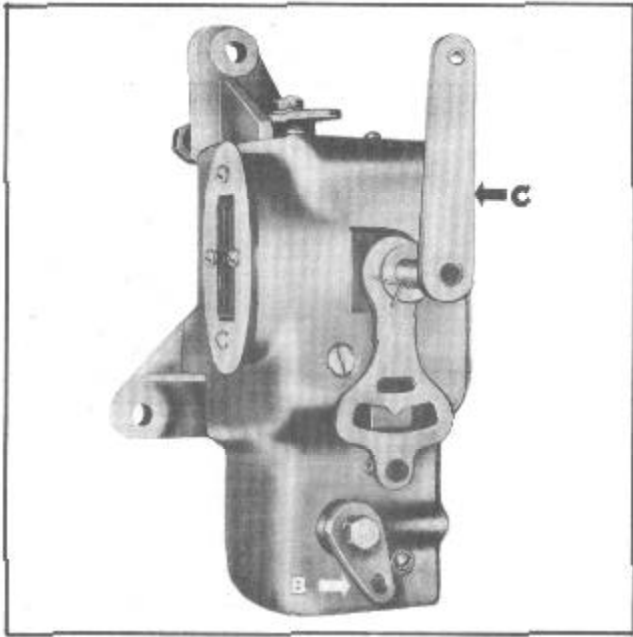
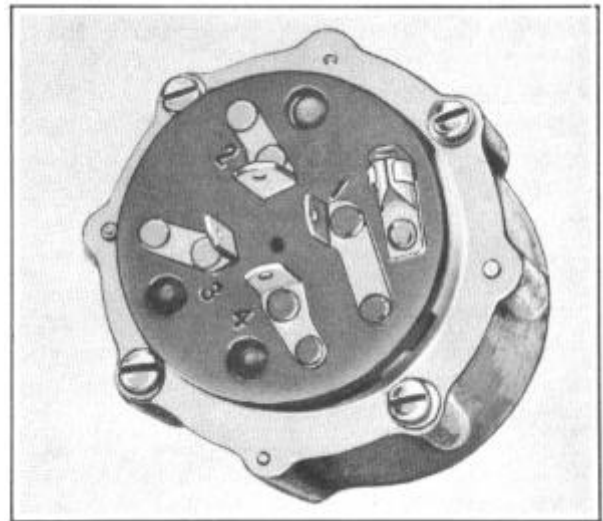

FIGURE 10
FIGURE 11
(D) THE NEUTRAL SWITCH AND LIMIT SWITCH, Figure 10. Both neutral and limit switches are operated by the same lever. This lever is connected to the transmission power shifting lever by an adjustable rod.
Figure 11 illustrates the governor used on all 500 series with Drive-Master only and all 501, 502, 503 and 504 Models with Drive-Master and overdrive.
Although different type connections are used for these two governors the wiring circuits are the same. The No. 1 blade in Figure 10 corresponds to "Y" terminal in Figure 11, No. 2 is the same as "RW", No. 3 same as "BL", No. 4 same as "B". "R" terminal is common to both governors and is used only with cars equipped with both overdrive and Drive-Master.